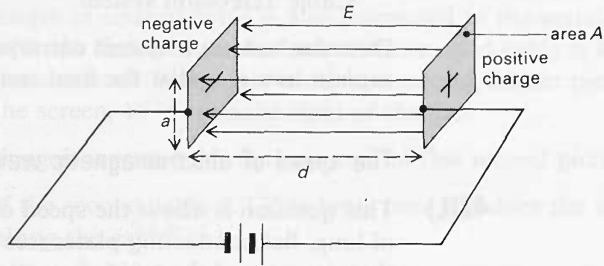

Figure J136
- e** Treating the two newly charged regions as a parallel plate capacitor (capacitance $C = \frac{\epsilon_0 A}{d}$), write down an expression for the electric field E between the plates in terms of the current I using the answers from parts **c** and **d** (figure J136).